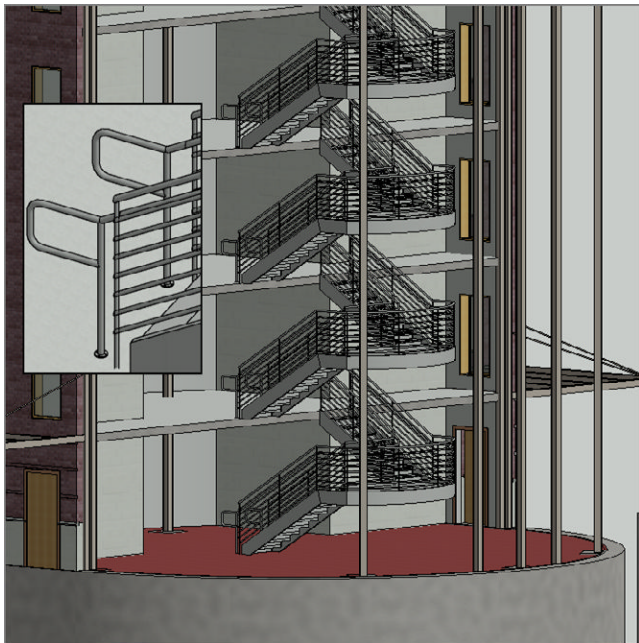

FIGURE 10.22: The copied families
7. Align the magenta line with the ADA - Pipe family, as shown in Figure 10.22.
11. Pick Levels 2, 3, and 4, and then click OK. Does your staircase look like Figure 10.22?